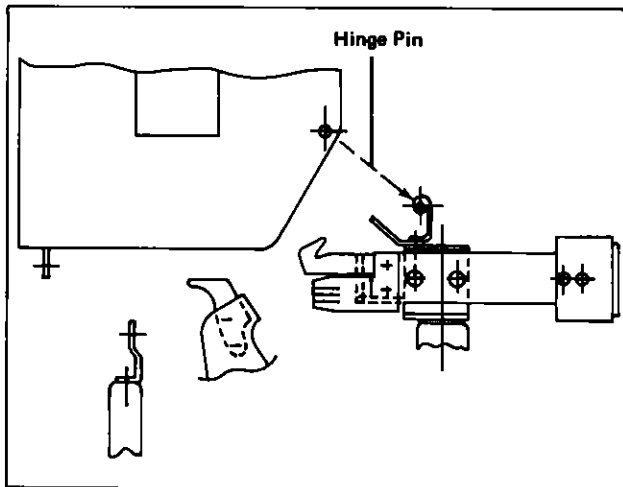

Fig. 59 Mount Arc Chute
**MOUNTING ARC CHUTE (FIG. 59)**